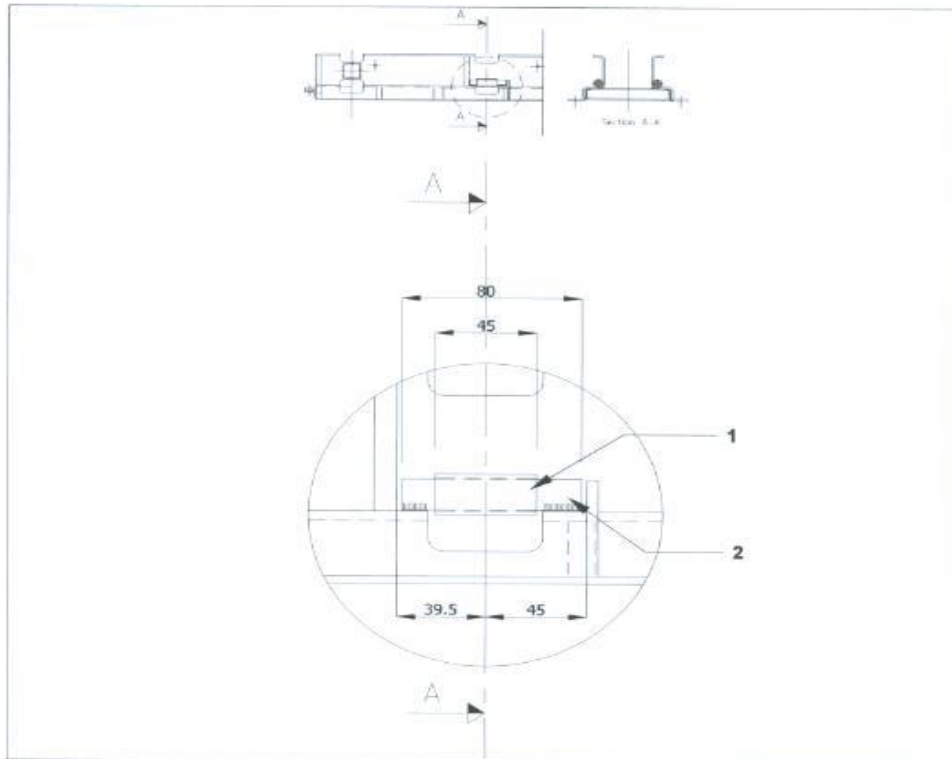

figure 3: Welding position of the plates to the brake shoe
- 2 Place the pipe (figure 3/1) over the steel rod (figure 3/2) and weld the steel rod to the base frame according to figure 3 and the WPS (see Attachment: WPS).